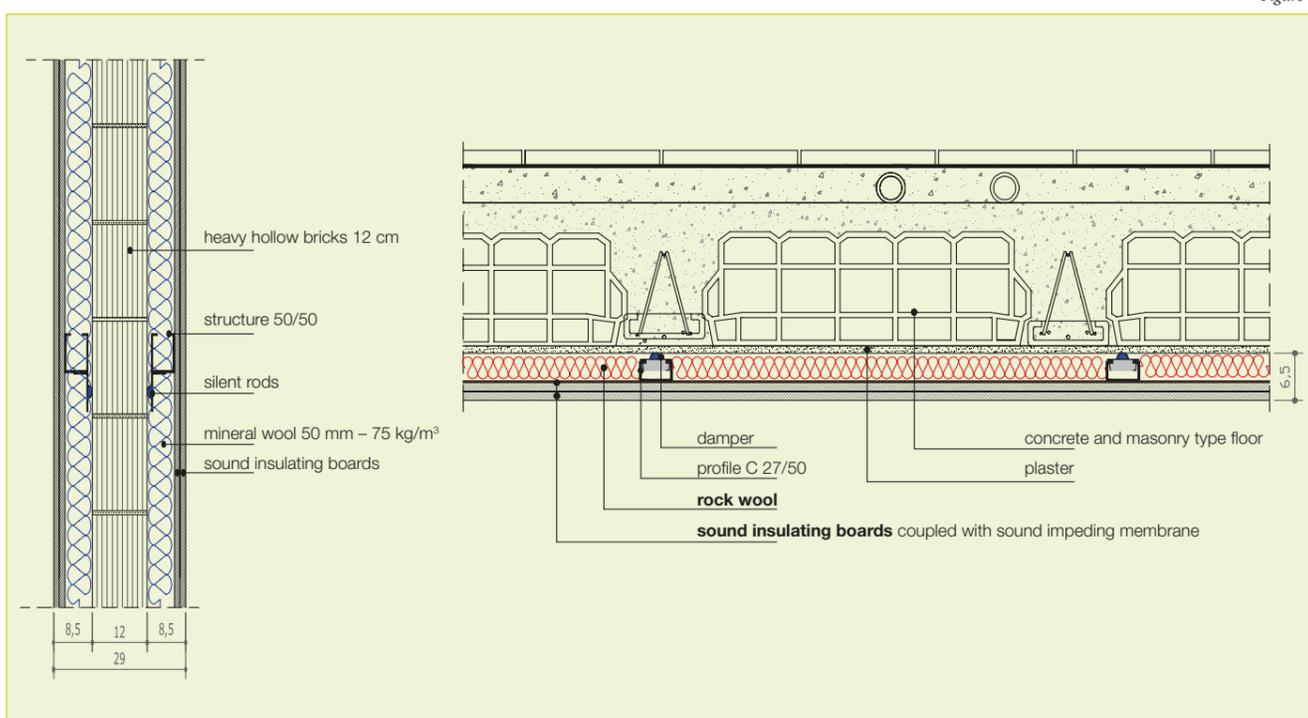

Figure 3
Figure 3 shows the construction details of a floor for which the test during work provided a significant  $L'_{nw} = 44$  dB result, much better than the  $L'_{nw} = 53$  dB set for Class I. The result was achieved in a building constructed in Sovizzo (VI) with façade and partition walls, without false ceilings or drywalls.
It is a mixed construction system, meaning that it uses concrete and masonry floors and brick walls associated with soundproof drywalls and false ceilings (meaning high density drywall slabs coupled with sound impeding mass membrane). The creation of the floor and brick wall lining and intrados (partition walls between units and the façade), as well as the use of internal drywall beams, (almost) cancels out the transmission of creeping, both concerning sound impact and the apparent sound insulation power. Some graphic representations are found in figure 3.